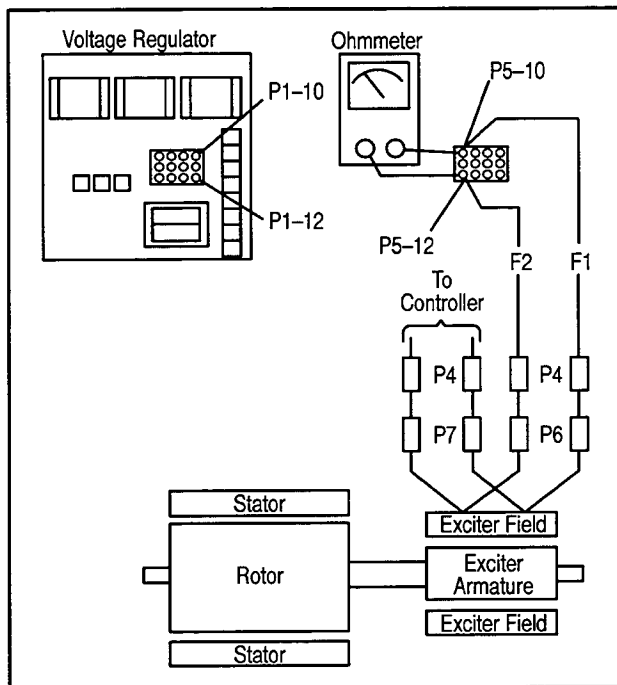

Figure 7-19. Checking Exciter Field Resistance
2. Check exciter field resistance by connecting an ohmmeter across exciter field F1 and F2 (pins 10 and 12 of P5). See Figure 7-19. The resistance reading for a cold exciter field is found in Specifications—Generator of Section 1. A low reading indicates an internal short and a high reading indicates an open winding. Repair or replace exciter field if ohmmeter readings indicate exciter field is defective. If resistance test proves inconclusive, perform a megohmmeter test on exciter field as described in the next step.